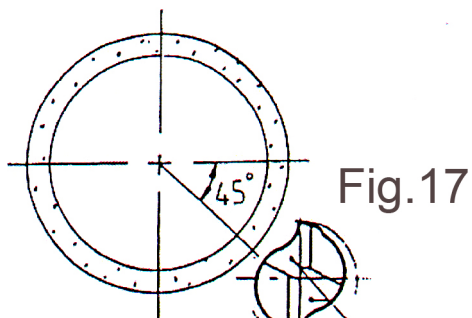

Fig.17
- (10) Grinding methods as step (6)—(8).
- (11) The width rate between 1st Relief and 2nd Relief face is around 1:2.
- (12) The grinding angle of Axial Relief Angle is usually ground by forming a 45° angle between grinding wheel's center and cutter's center. After the 2nd Relief grinding is finished the rest could be ground by the same steps. Fig.17